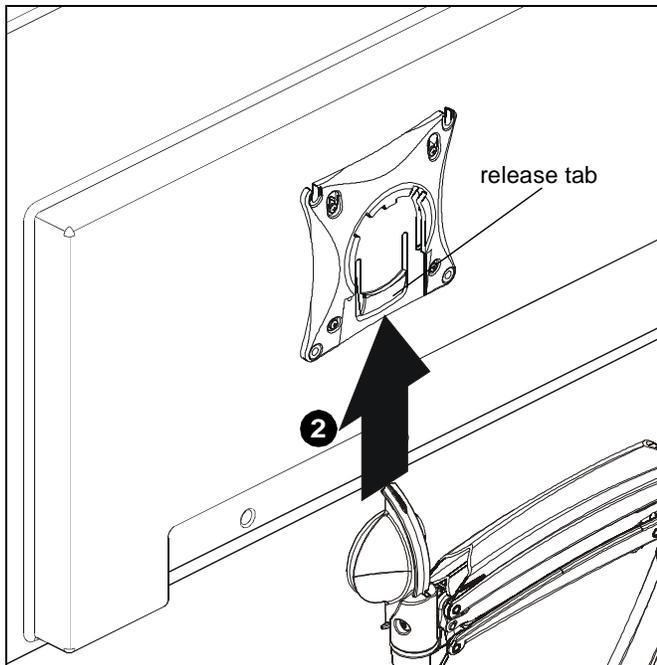

Figure 11
WARNING: Only remove display from mount when the display can be lifted up from the mount! DO NOT remove display unless the display is in the upright position! (See Figure 11)
2. Remove quick connect faceplate from mount by pressing release tab and sliding faceplate off mount. (See Figure 11)